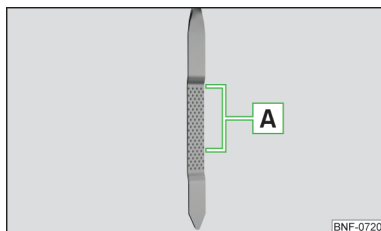

Fig. 141
The oil level must lie in range **A** » Fig. 141. If the oil level is below range **A**, oil must be added.
- The oil level must never fall outside range **A** » Fig. 141 - otherwise there is a risk of damaging the engine and the exhaust system.